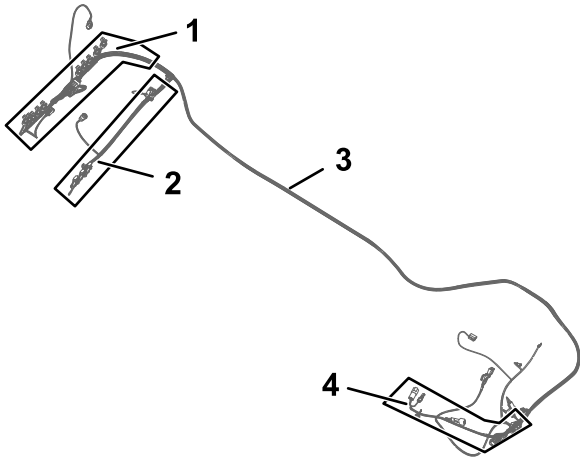
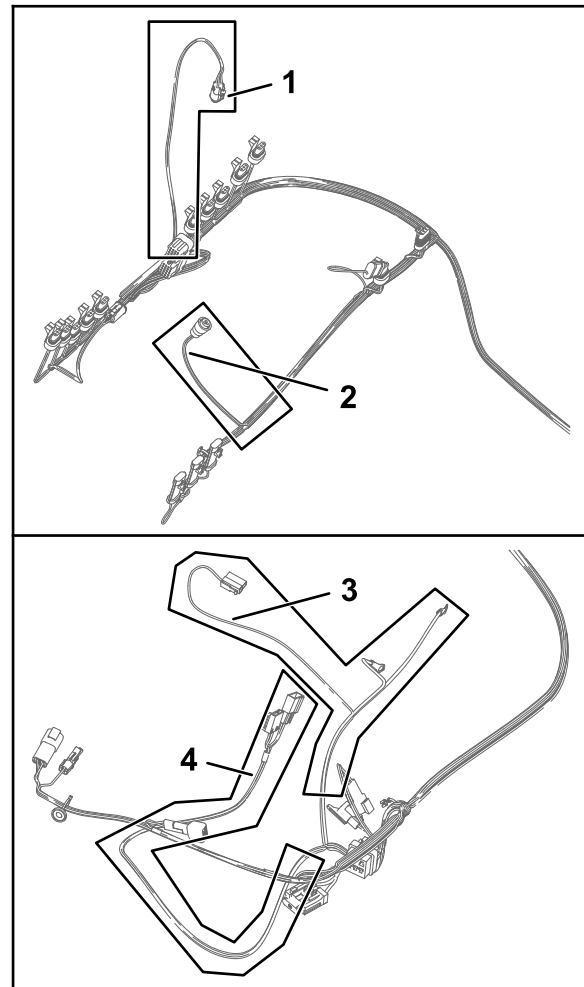

Figure 74
Figure 75
1. Locate the 84 cm (33 inch) wire-harness branch, 60 cm (23-1/2 inch) wire-harness branch, and 66 cm (26 inch) wire-harness branch of the kit wire harness (Figure 74 and Figure 75).